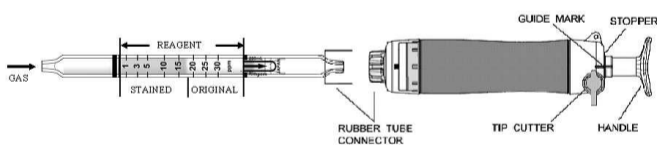

Fig.1
- ② Insert the detector tube into the aspirating pump securely as shown in Fig.1. (Arrow mark shall point to the pump.)
- ③ Align the guide marks on the shaft and stopper of the aspirating pump.
- ④ Pull the pump handle at a full stroke until it locks and wait for 1.5 minutes or until the completion of sampling is confirmed with the flow indicator of the pump. (See descriptions about the flow indicator in the instruction manual of the pump.)
- ⑤ Turn the pump handle right or left by 1/4 (90°), push it toward the pump without removing the detector tube from the pump, and repeat the step ③~④ once more.
- ⑥ On completion of sampling, read the scale at the maximum point of the stained layer.
- ⑦ When the concentration is below the scale range, 4 pump strokes can be used to determine concentrations of 0.5 to 12.5 ppm. Then correct the tube reading by correction table. (REFER TO ITEM 3. CORRECTION FOR AMBIENT CONDITIONS AND PUMP STROKE.)